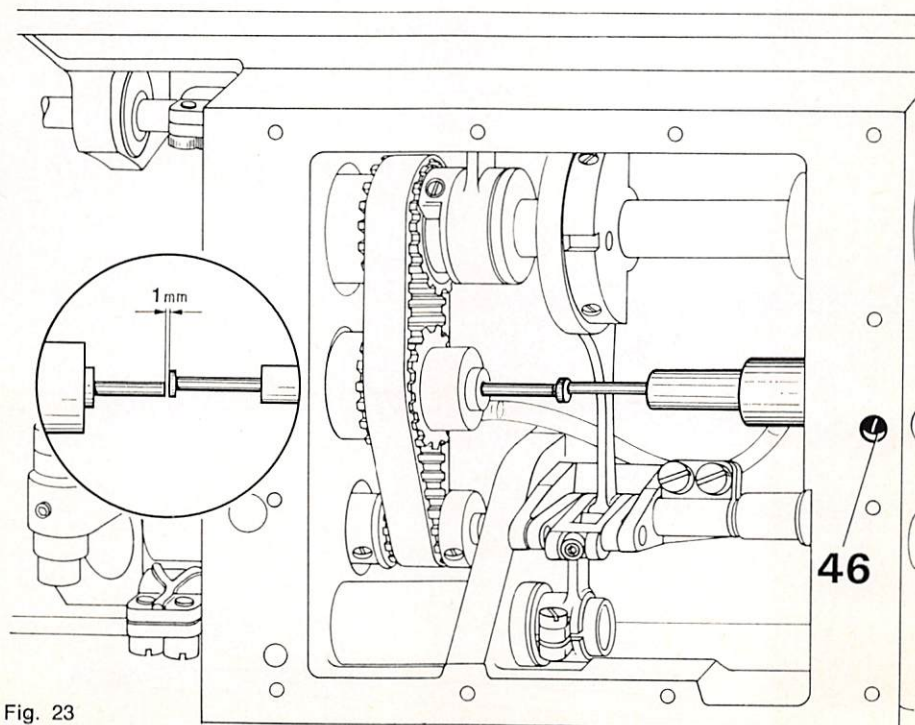

Fig. 23
21. Adjusting the Oil Check Valve (Fig. 23)